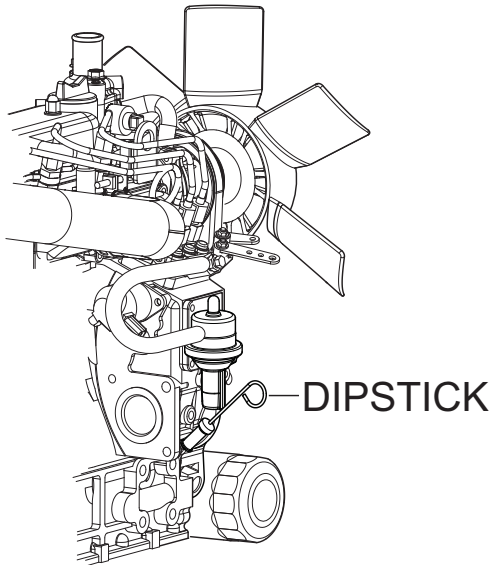

Figure 10. Engine Oil Dipstick
2. Remove the **engine oil dipstick** from its holder (Figure 10) and wipe it clean.